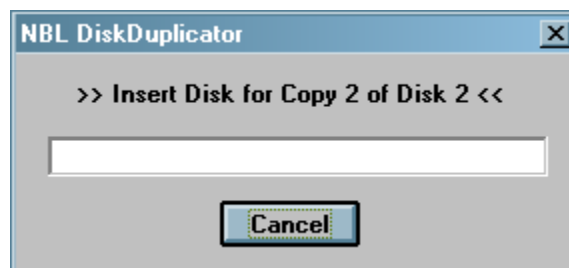

Figure 7
6. Wait for the Firmware Upgrade Executable to display the text box which verifies that it is OK to overwrite the next diskette. The text box will look like the one shown in **Figure 7**.